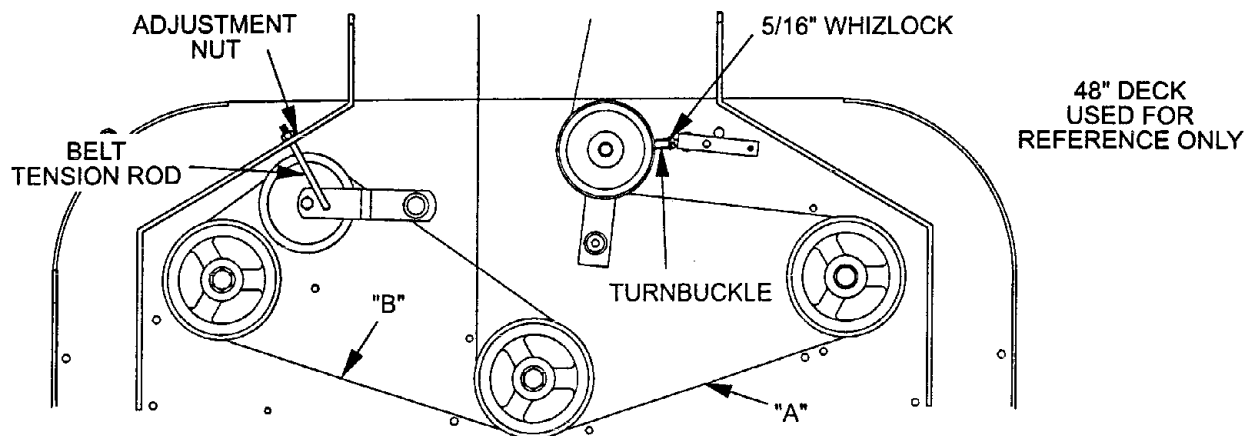

FIG. 12
- Belt must be tight enough so it does not slip during heavy loads while cutting grass. Over-tensioning will reduce belt and spindle bearing life. To adjust belt tension, loosen the 5/16" whizlock nut on turnbuckle and rotate the turn buckle; rotate turnbuckle toward rear of mower to tighten, and toward front of mower to loosen belt tension (See Figure 12).
- e) For the 14 and 15 hp engines, proper belt tension will require about 10 lbs. side pull on belt, halfway between pulleys to deflect belt 1/2". For the 16 hp engines, proper belt tension will require about 12 lbs. of pull to deflect belt 1/2". (See Figure 12, Point A).
- b) The secondary drive belt is adjusted via the belt tension rod (See Figure 12). The 5/16" nylock adjustment nut is located at the rear, right corner of engine deck.
- c) Proper belt tension (for the secondary belt) will require about 10 lbs. side pull on belt, halfway between pulleys to deflect belt 1/2". (See Point B, Figure 12).